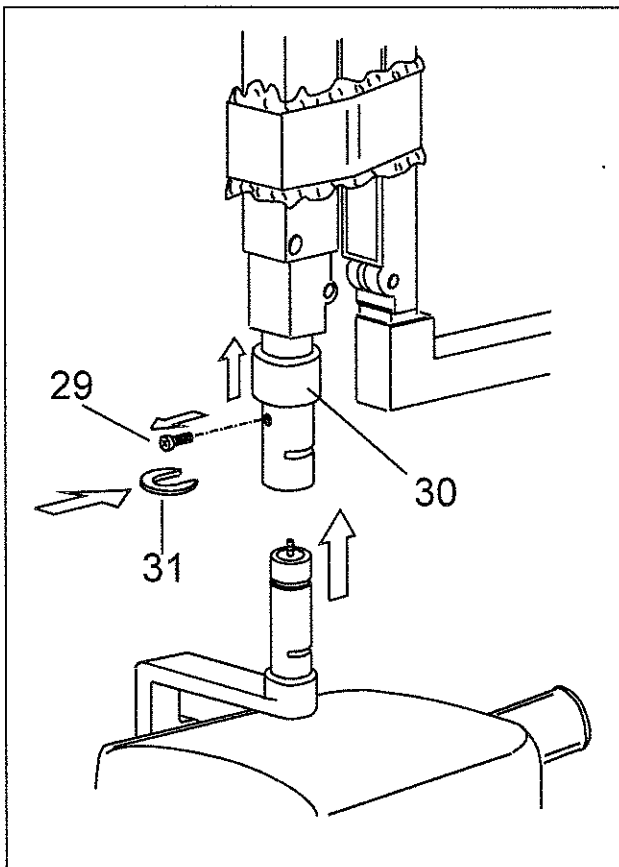
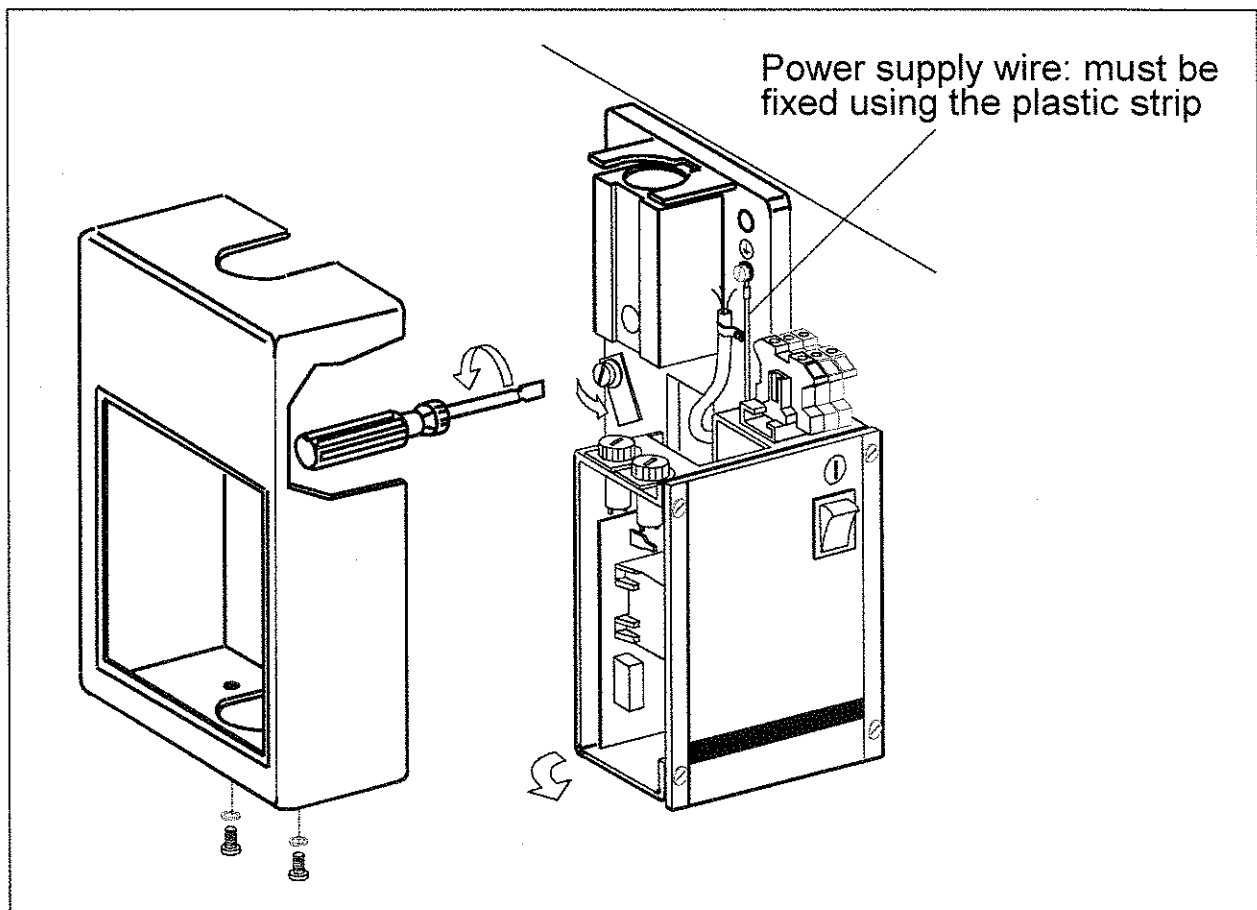

Figure 13 Tubehead mounting - 1
Figure 15 Electrical connection
- b) Turn out the safety screw "A" (Figure 15) and introduce Scissors Arm pivot into Extension Arm (Figure 13).
Reference to Figure 13, page 27
- a) **Make sure that the line input wire(s) cannot touch the power supply board. To do this, it is mandatory to follow the cable path depicted on the Figure 15 on page 29 and to fix in the appropriate path using the enclosed plastic strip.**
- b) Open the power assembly part loosing the screws of Figure 15 on page 28.